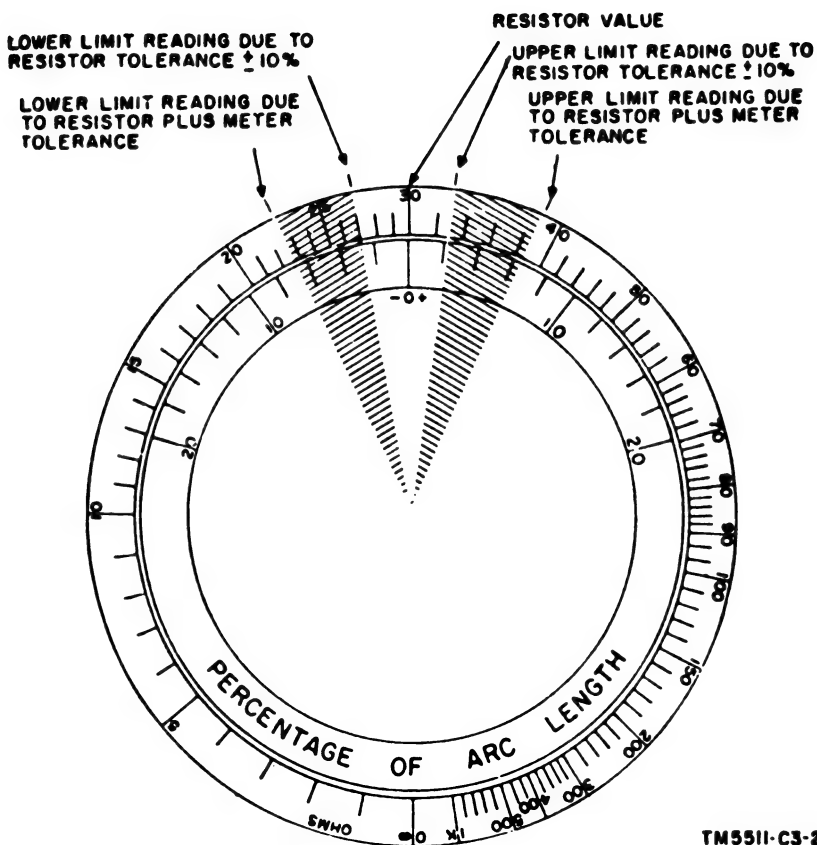

**Figure 4.1. (Added) Computing device, indicating meter tolerance.**
- (1) Misinterpretation of resistance readings obtained with Electronic Multimeter TS-505/U can result in unnecessary repairs to equipment, because resistors are mistakenly reported faulty.
- (2) The tolerance prescribed for the TS-505/U is  $\pm 4$  percent of arc length. The  $\pm 4$  percent of arc length does not result in a  $\pm 4$  percent resistance value reading. The possible indicated resistance of any resistor can be determined by using a computing device similar to that shown in figure 4.1. Figure 4.1 shows that a resistor rated at exactly 30 ohms could produce a reading on the TS-505/U between 25.5 and 35.5 ohms, with only 4 percent meter tolerance. If the resistor has a tolerance of  $\pm 10$  percent, the meter reading obtained will be between 22.7 and 38.1 ohms as shown in figure 4.2.
- c. These readings are 25.5 ohms and 35.5 ohms (fig. 4.1).